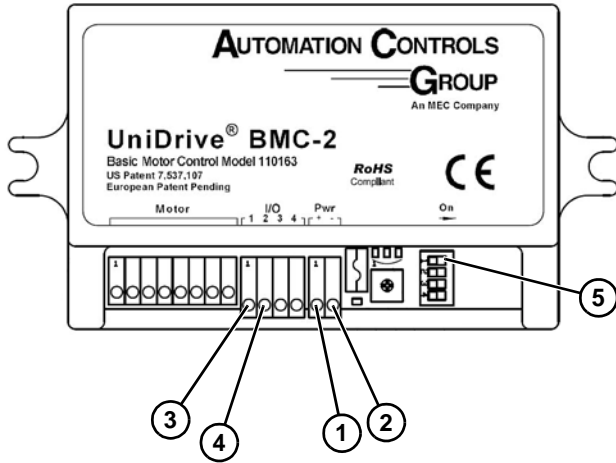

Figure 78
Wire +24 DC (Figure 78, item 1) and DC ground (Figure 78, item 2) to the driver's power plug.
Supply an PNP input to Smart input 1 (Figure 78, item 3) to run motor.
- Dynamically, wire a 2nd PNP input to Smart input 2 (Figure 78, item 4). Only one Smart input can be active at a time.
- One time, switch state of dip switch 1 (Figure 78, item 5) on the driver board. Dip Switches are only read at start up. After a change is made, cycle power to the unit.